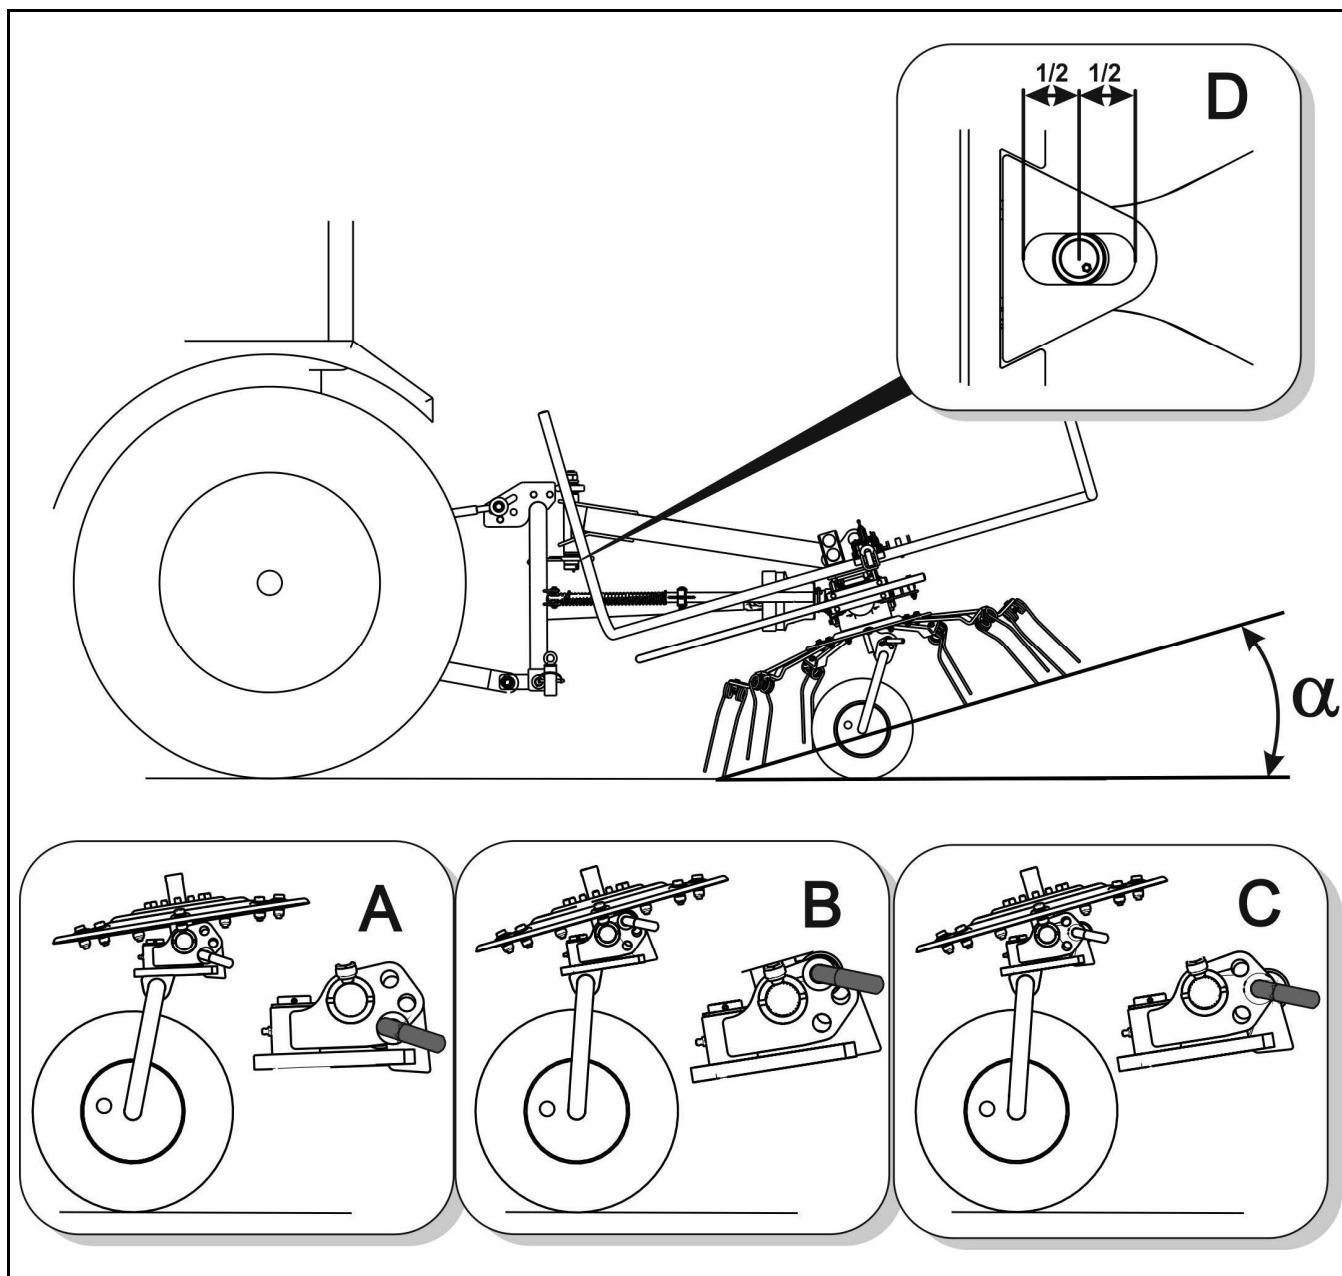

FIG. 4.5A Work with tedder – rotor inclination angle (spreading angle)
- set height of lower forks of tractor three point linkage and adjust top link in such a way, the rotors are inclined forward and springtines lightly touch the ground, and angles sleeves are in the central part of the extended opening D (FIGURE 4.5A),
After adjusting tractor rear three point linkage set the swath spreading angle (FIGURE 4.5A).